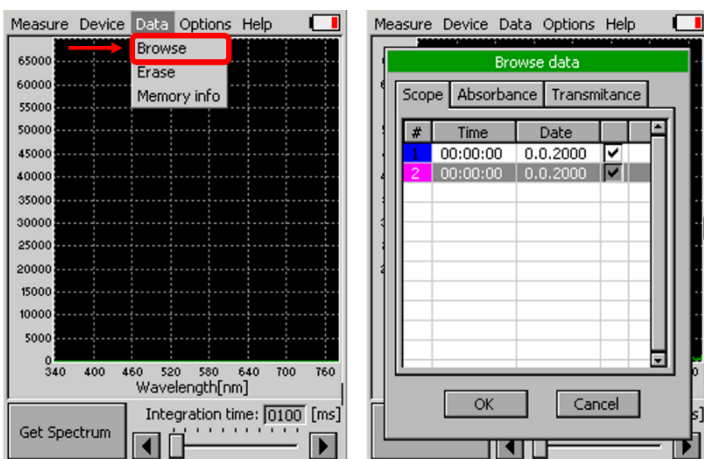

Fig. 4 Browse data.
- **Browse (Fig. 4)**– displays data browse dialog box. The user can browse the list of stored data, select the set of data files and view the light spectra in Scope, Absorbance or Transmittance mode. Color classification of each data file helps the user to discriminate between individual measurements.